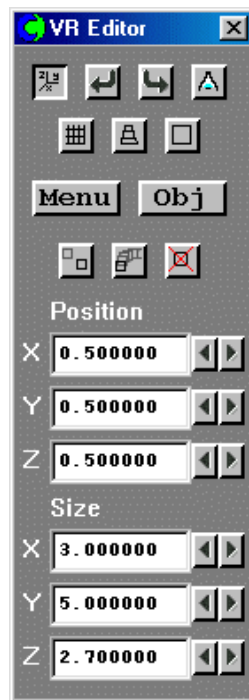

Figure 2.4 Resize the default room to 3mx5mx2.7m on the control panel
- Change the size to 3m in x-direction, 5m in y-direction and 2.7m in z-direction respectively on the control panel as shown in figure 2.4